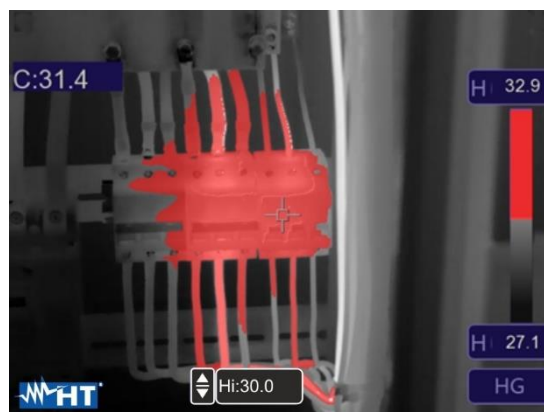

Fig. 41: Selection of isotherm line Alarm high Temp
5. Touch the “Hi” field at the bottom of the display and use the arrow keys ▲ or ▼ to set the value of the **maximum** temperature threshold above which the instrument shows image spots in red colour, and the remaining spots in grey colour (see Fig. 41).